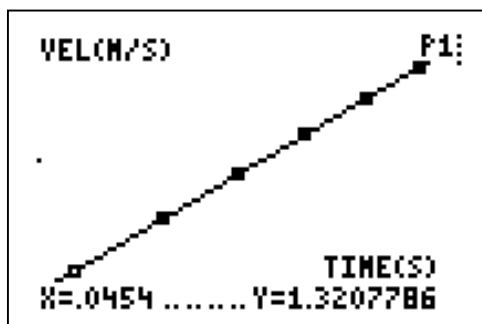

Fig. 1
4. Examine the VELOCITY VS TIME graph (see Fig. 1). The slope of the graph is a measure of acceleration (see Fig. 2).